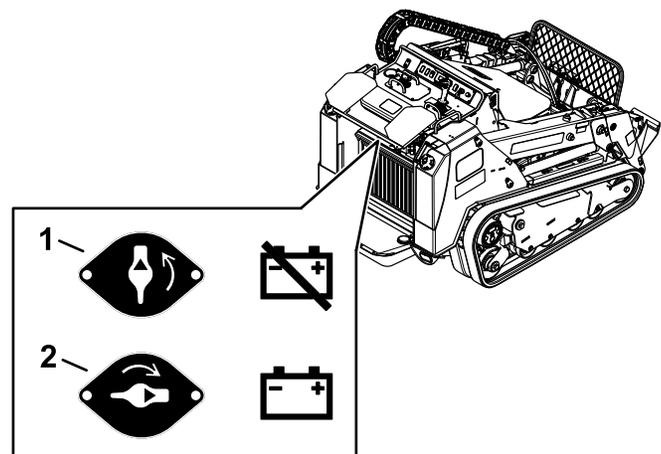

Figure 60
- To energize the machine electrically, rotate the battery-disconnect switch clockwise to the ON position (Figure 60).
- To de-energize the machine electrically, rotate the battery-disconnect switch counterclockwise to the OFF position (Figure 60).